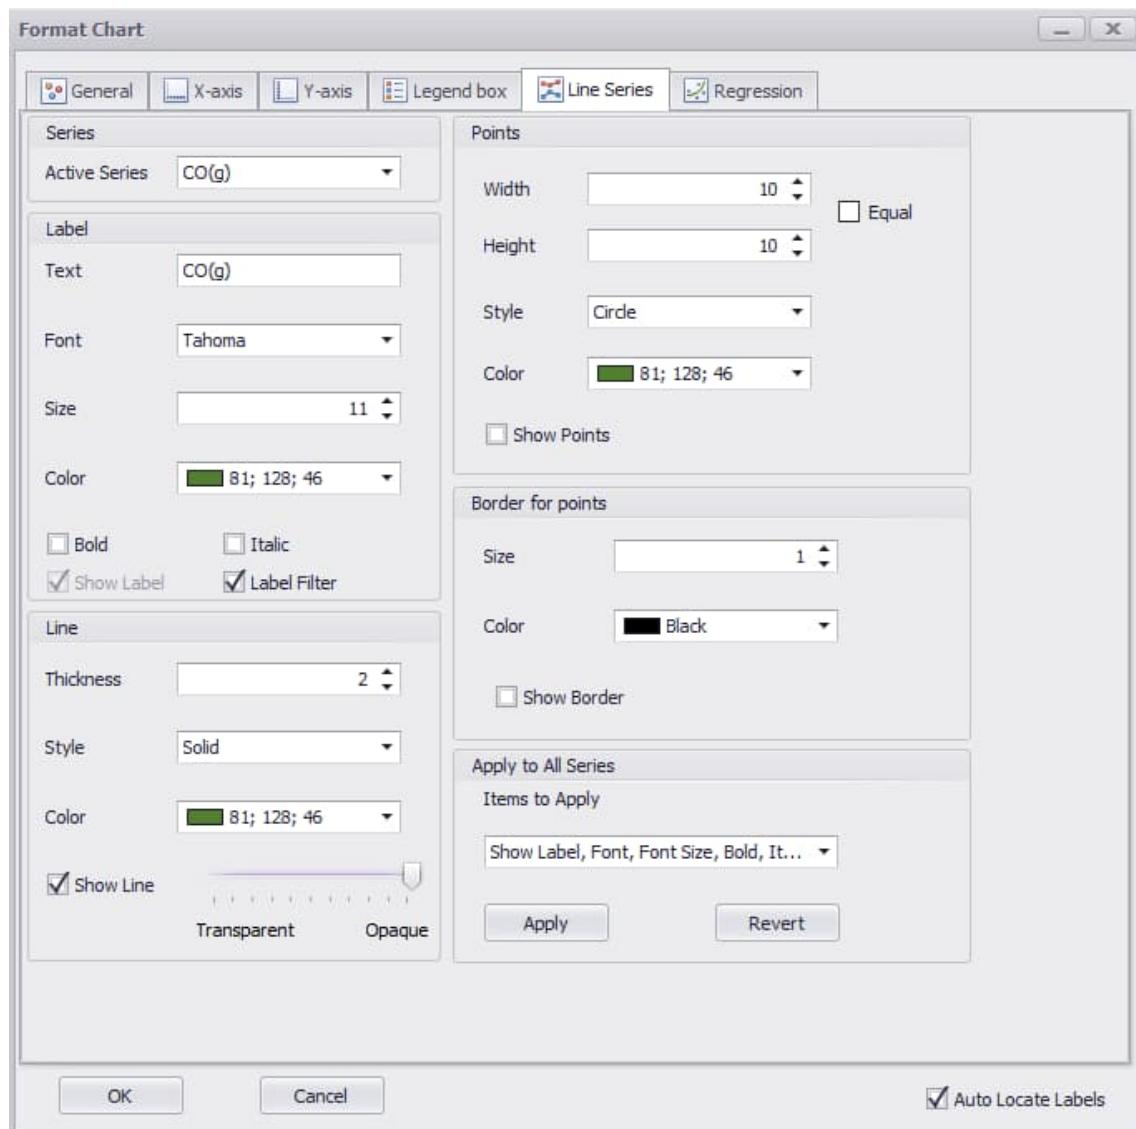

Fig. 21. Changing label and line specifications.
2. The **line width** of curves, species label font, etc. may be changed by double clicking the species labels or selecting the label with the mouse and selecting **Format Label** from the menu. User cannot do this by double clicking the line. The label and curve editing window is shown in **Fig. 21**. Note that line styles other than solid are available only for line widths smaller than 0.3 mm.